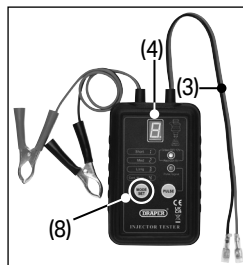

Fig. 3
5. Press the **'Mode/Injector Type Setting'** button (8) to select the output signal pulse mode between Short, Medium, Long and Continuous mode. The 'mode Indicator' screen (4) will display the mode number selected. Fig 3